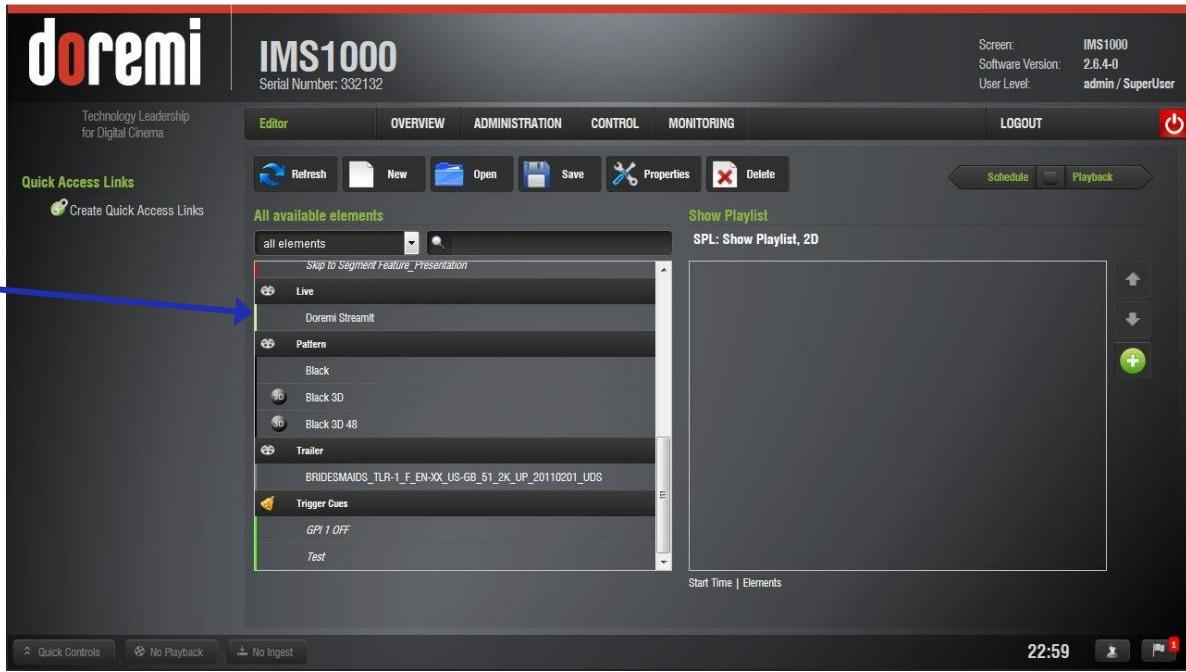

Figure 191: Live CPL Inserted in a Show Playlist
- The newly created live CPL will be visible under Live in the left part of the Editor tab allowing the user to insert it in a Show Playlist like any standard CPL (Figure 191).